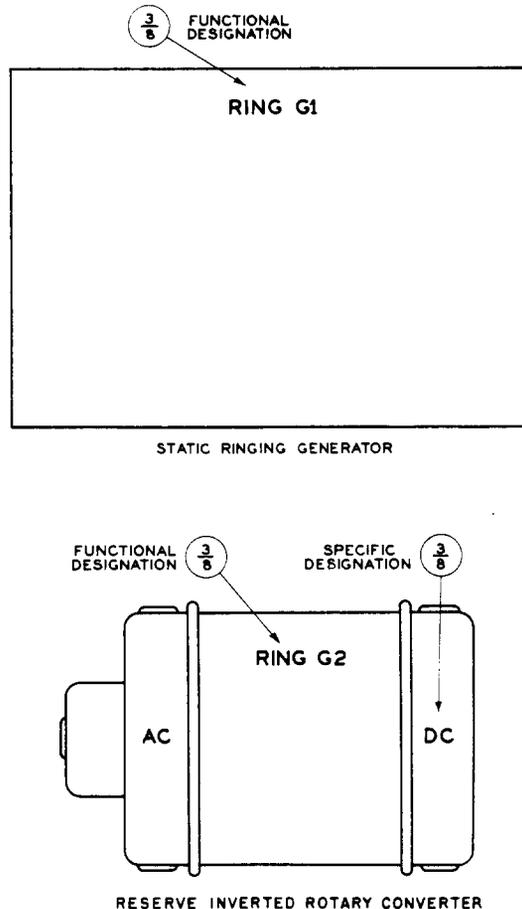

Fig. 43 - Small Ringing Machines - Panel Mounted - Static-Ringing Generator and Inverted Rotary Converter
2.62 Static-ringing generators shown in Fig. 43 have designations similar to those of the rotating type. This figure also shows the inverted rotary converter which serves as reserve generator.